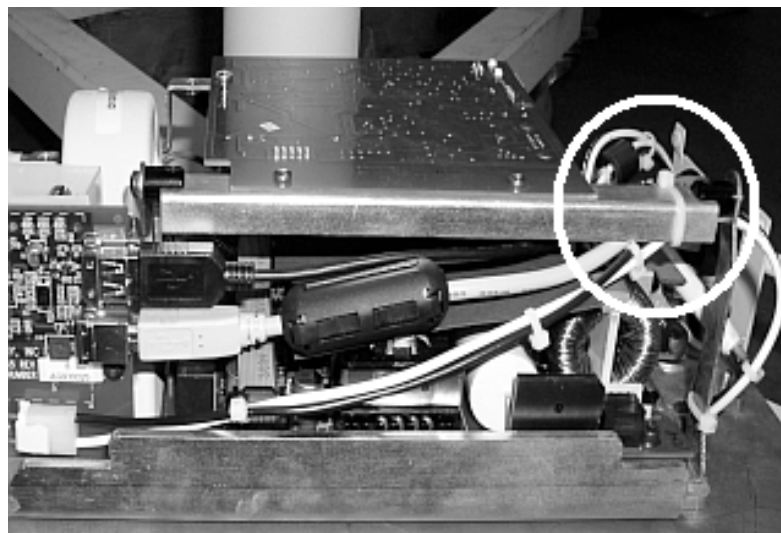
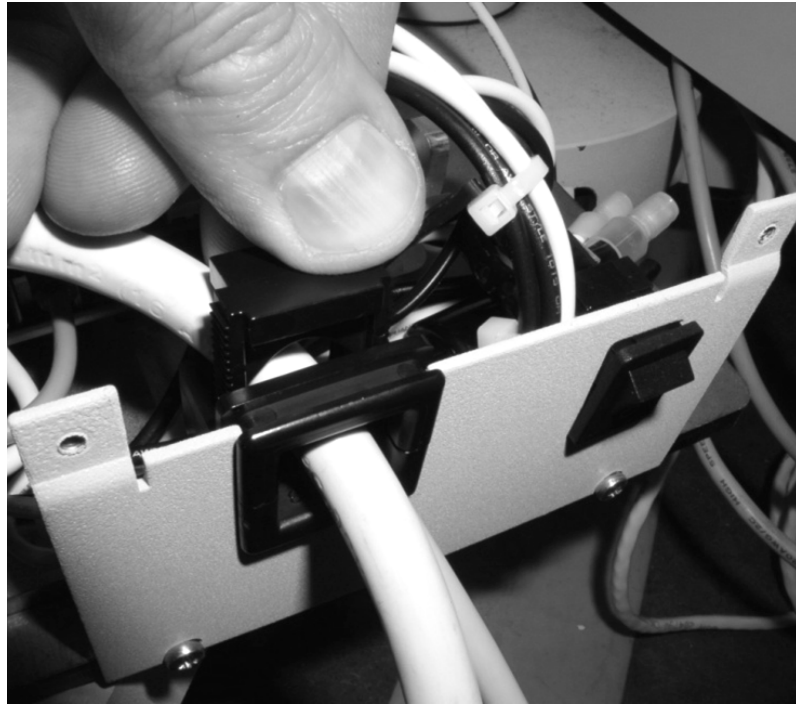

Figure 39: Dressing of the outbound 5 m USB cable
Figure 40: Placing the Power Cable and the outbound 5 m USB cable in the Strain Relief
4. Dress the Power and the outbound 5 m USB cables with cable ties as shown on Figure 40 and Figure 39.
5. Pass the outbound 5 m USB cable together with the power cable through the Strain Relief as indicated on Figure 40.